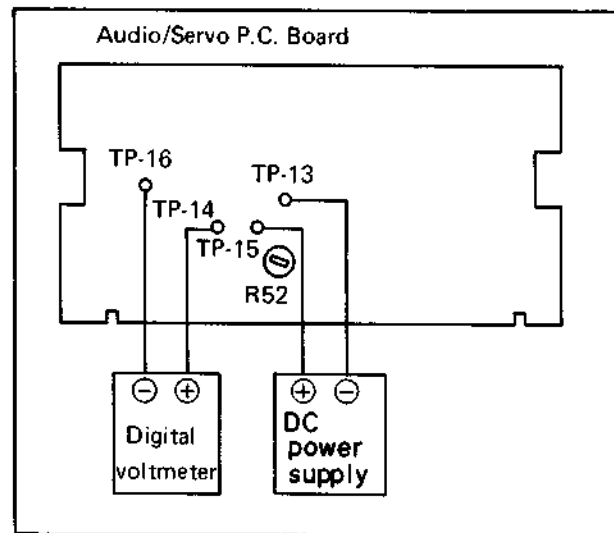

Fig. 6-12
3. Connect the DC voltmeter between TP-14 (DRUM INVERT IN) and TP-16 (DRUM NON-INVERT IN) as shown in Fig. 6-12.